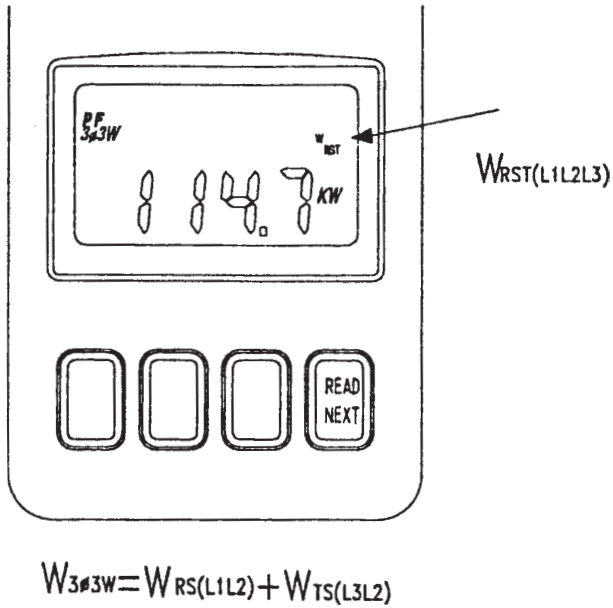

Fig.9
3.7.4. Once the NEXT button is pressed after measurements of W_{RS} (or W_{L1L2}) and W_{ST} (or W_{L2L3}), the power clamp will add the two values together and show the result on the LCD. W_{RST} symbol will be shown to indicate the watt of 3f3W unbalanced Power (refer to figure 9). PF is not shown in 3f3W unbalanced power mode.